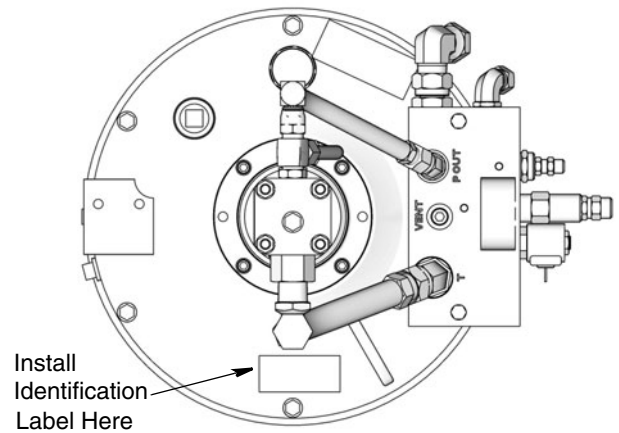
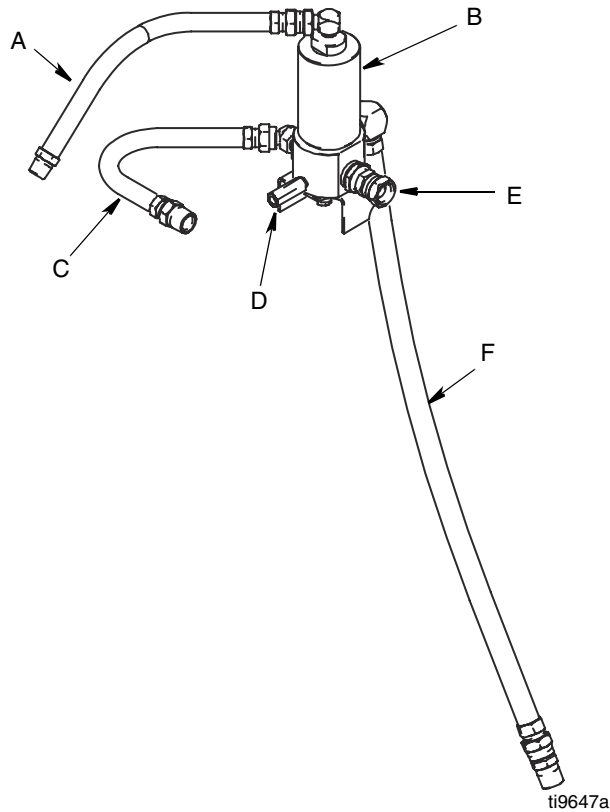
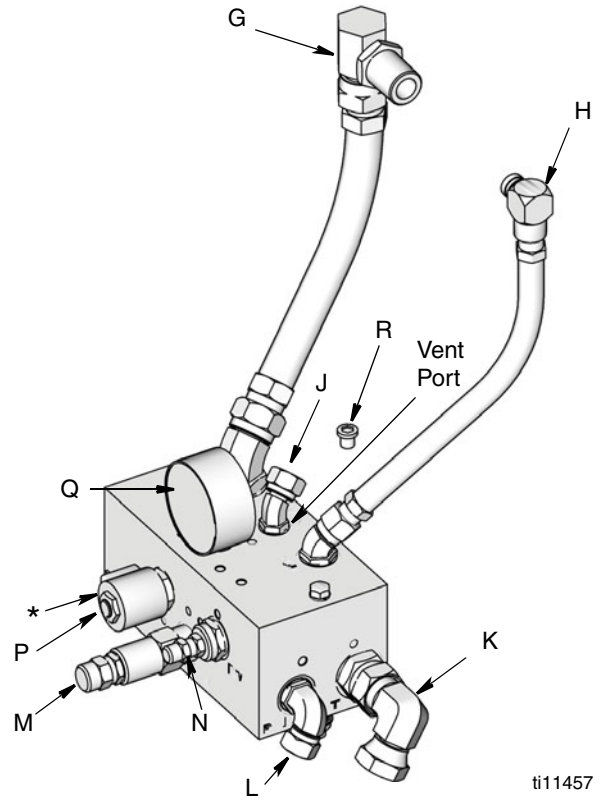

FIG. 2
FIG. 5
FIG. 6
1. Install Pump (D) on Reservoir (P).
2. Remove Vent Valve Hydraulic Control (J) fitting and replace with Plug (R) (FIG. 6, page 9).
3. Install Hydraulic Control Module on Reservoir (P).
4. Connect Tank Line (G) to Pump (D).
5. Connect Pump High Pressure Hydraulic Line (H) to Pump (D).
7. Install model number label as shown in FIG. 2.
(Unless otherwise indicated, see FIG. 5 and FIG. 6, page 9)
1. Mount control module on a flat, sturdy surface per the recommended configuration (Fig. 2, page 8).
2. Connect Pump Tank Line (G) to pump hydraulic outlet port.
3. Connect Vent Valve Hydraulic Control (J) connection to the hydraulic control line (A).
4. Connect the Pump High Pressure Hydraulic Line (H) to the pump hydraulic input port.
5. Connect high pressure hydraulic supply to the High Pressure Hydraulic Connection (L) and the tank lines to the Hydraulic Tank Connection (K).
6. Connect the 3-way Solenoid Valve (P) to the timer.